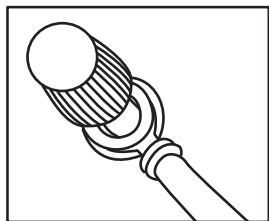

Fig. 1
- Undo the red nut **[16]** on the power inverter **[1]**. Guide the red fork eyelet of the cable with 12 V motor vehicle cigarette lighter plug **[12]** with the opening over the screw connector **[7]** (see Fig. 1). Make sure that the washer is positioned between the fork eyelet and the nut **[16]**.
- Undo the black nut **[17]** on the power inverter **[1]**. Guide the black fork eyelet of the cable with 12 V motor vehicle cigarette lighter plug **[12]** with the opening over the 12 V screw connector **[8]** (see Fig. 1). Make sure that the washer is positioned between the fork eyelet and the nut **[17]**.
- Undo the red nut **16** on the power inverter **1**. Guide the red fork eyelet of the cable with the red connecting clamp **10** over the 12 V screw connector **7** (see Fig. 1). Make sure that the washer is positioned between the fork eyelet and the nut **16**.
- Undo the black nut **17** on the power inverter **1**. Guide the black fork eyelet of the cable with the black connecting clamp **11** over the screw connector **8** (see Fig. 1). Make sure that the washer is positioned between the fork eyelet and the nut **17**.